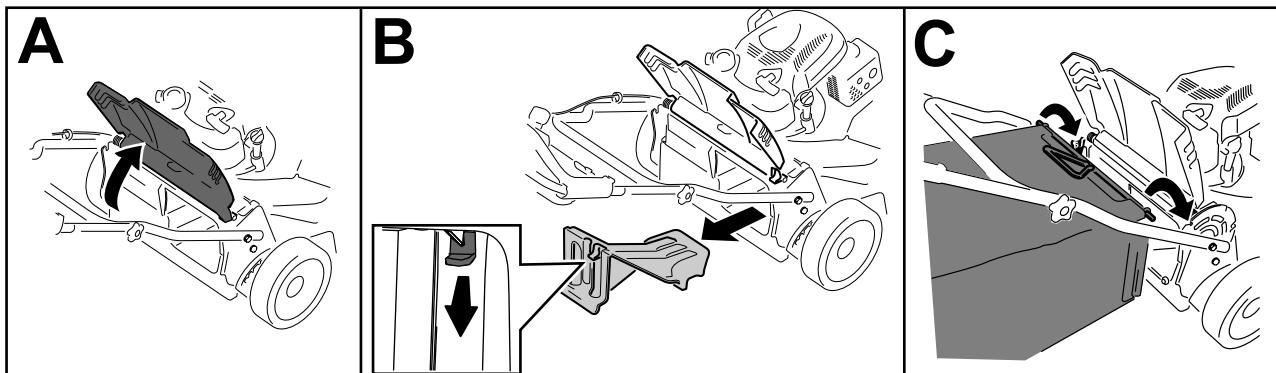

Figure 24
1. Raise and hold up the rear deflector (A of Figure 24).
2. Remove the rear-discharge plug by pulling down on the latch with your thumb and pulling the plug out from the machine (B of Figure 24).
3. Install the bag rod into the notches at the base of the handle and rock the bag back and forth to ensure that the rod is seated at the bottom of both notches (C of Figure 24)